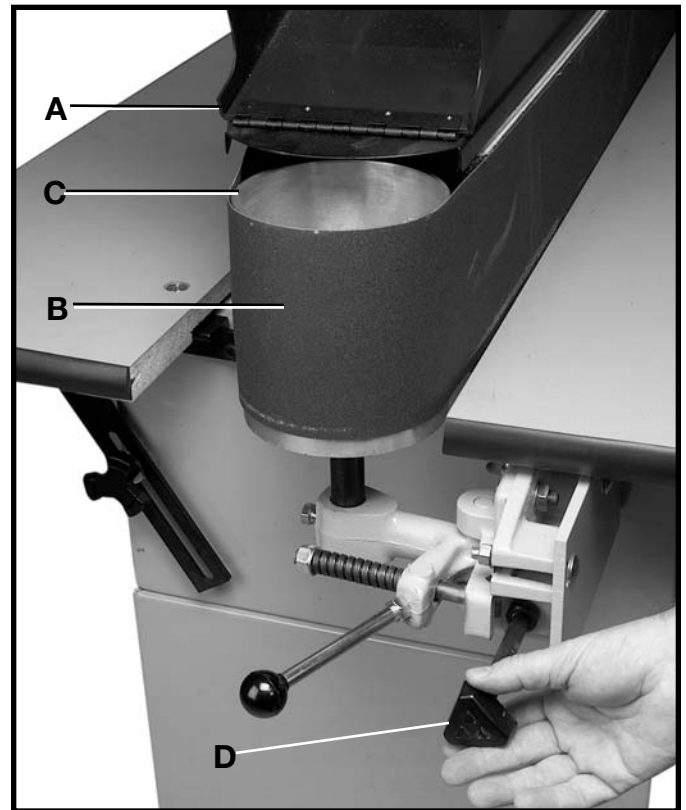

Fig. 34
1. Raise the dust chutes (A) Fig. 34, at both ends of the top guard and dust chute assembly.
3. Apply power to the machine. Jog the on/off switch several times and check to see if the sanding belt (B) Fig. 34, is tracking correctly on the pulleys, one of which is shown at (C). If an adjustment is necessary, turn the tracking knob (D) slightly right or left as needed until the belt is tracking properly. **NOTE:** The belt tracking adjustment can be made with the machine running however, make certain the surface of the sanding belt is freely moving and not in contact with any material or part of the machine.